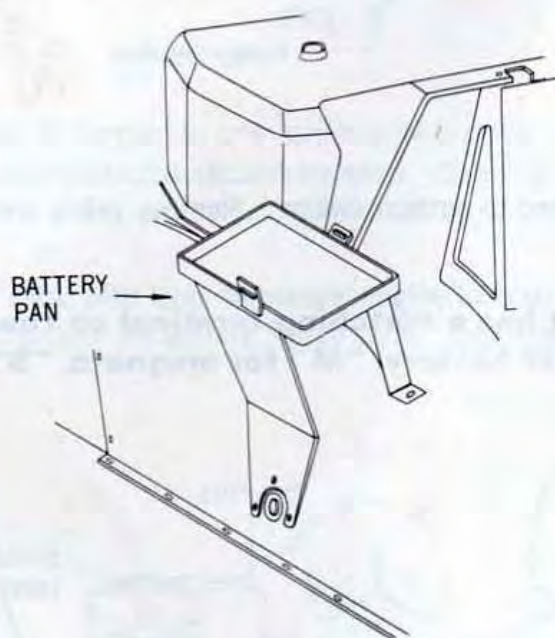

FIG. 9
14. Assemble battery pan assembly as to Fig. 9. Holes must be drilled in the front end assembly to match rivet holes in pan assembly. Secure the pan assembly to the front end with three rivets.
It will be necessary to purchase pan kit, Pt. No. 0134-670 from your dealer or distributor for electric start installation on all models. See Fig. 9 for assembly.